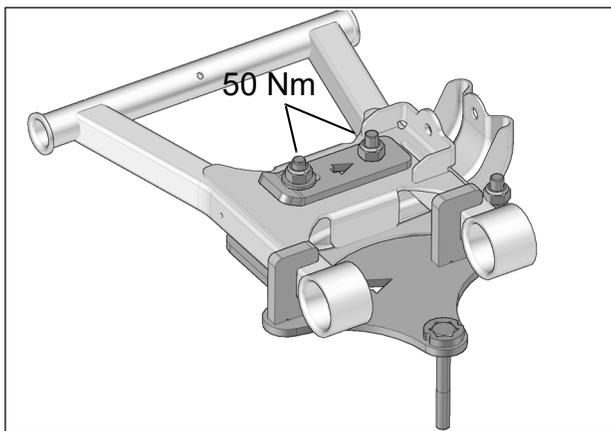

Fig. 11
9. Tighten assembly to 50 N•m [37 lb•ft] of torque. See Fig. 11